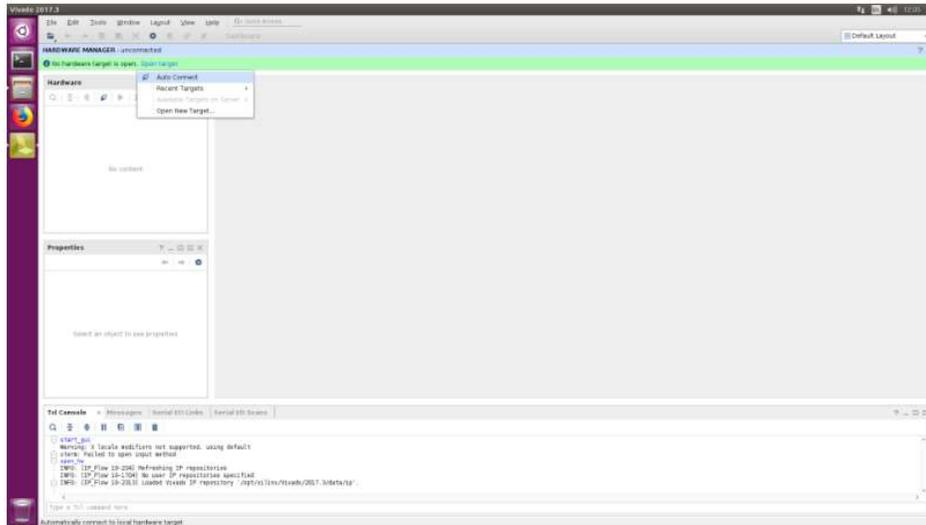

Figure 50: Auto connect [sc04]
6. A pop-up opens. Select “Auto Connect” to connect to the target (Figure 50, STMA-69249);